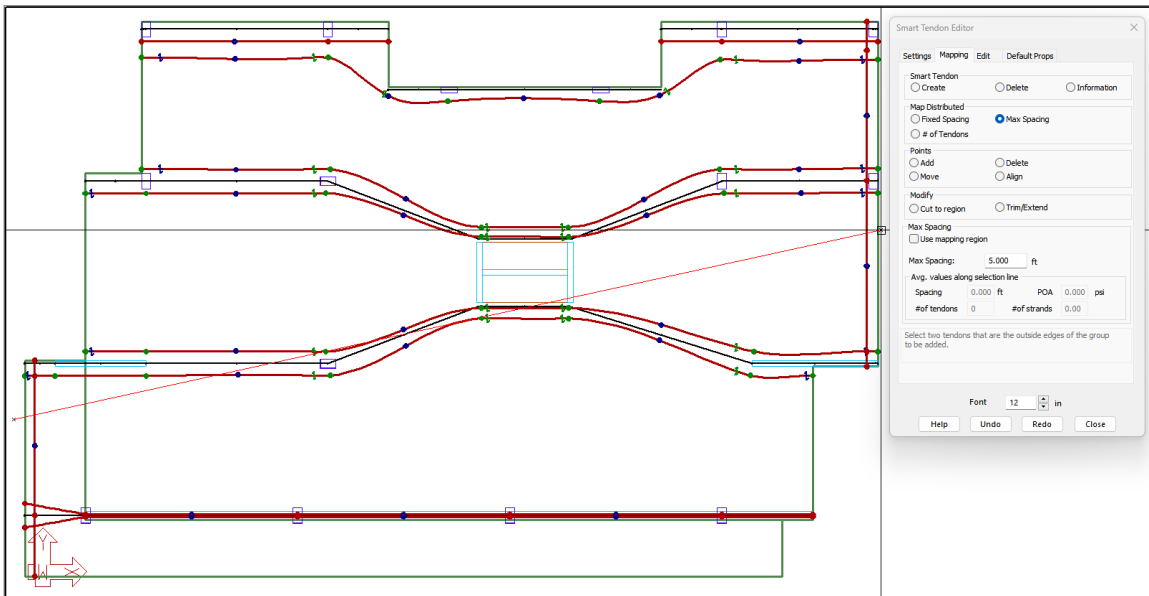

FIGURE 9-72
- Draw the two-point construction line so the first tendon it passes through is the first distributed tendon we drew, and the last tendon it passes through is the last distributed tendon we drew, as shown in **FIGURE 9-72**.